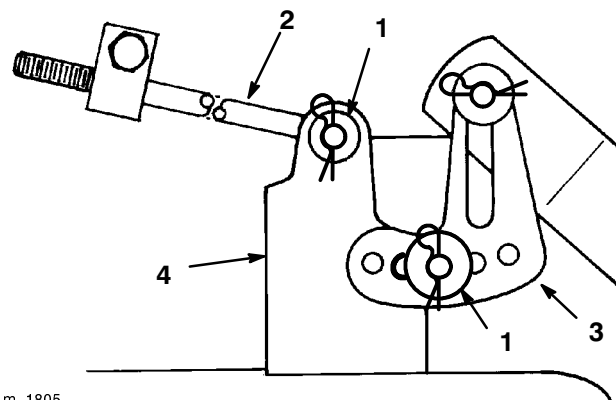

Figure 37
8. Remove the hair pin cotter and washer at the top of the mower leveling bracket (Fig. 37). Now slide the bracket off the mounting pin. Repeat this step on the opposite side of the mower.
9. Remove the hair pin cotter and washer from the end of the long rod (Fig. 37). Now slide the rod out of the mower mount. Repeat this step on the opposite side of the mower.